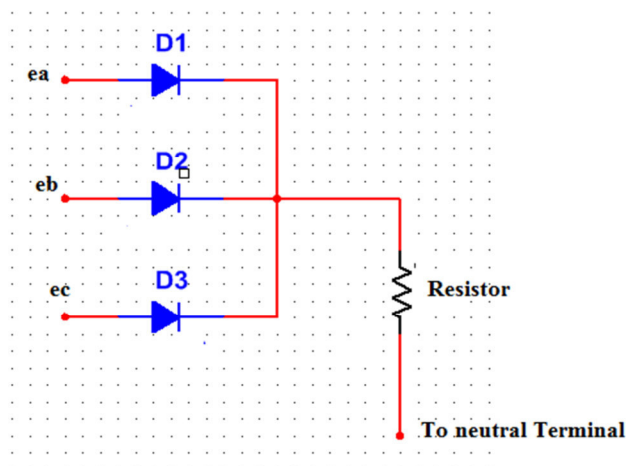

Figure 5.6: Three Phase Halfwave Uncontrolled Rectifier
- Implement the circuit shown in Figure 5.6 on breadboard and attach the anodes of diodes with secondary side of the transformer (e_a , e_b and e_c). One end of the resistor is attached with common cathode terminal while the other end with neutral.